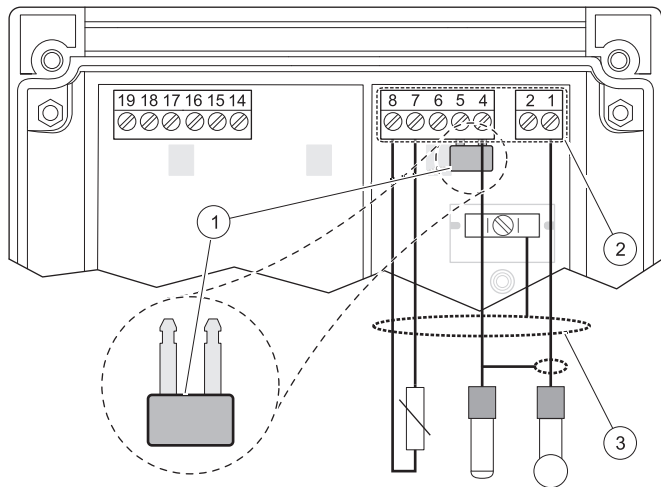

Figure 6 Wiring for Hach combination pH/ORP sensors
1. Install the jumpers shown in Figure 6.